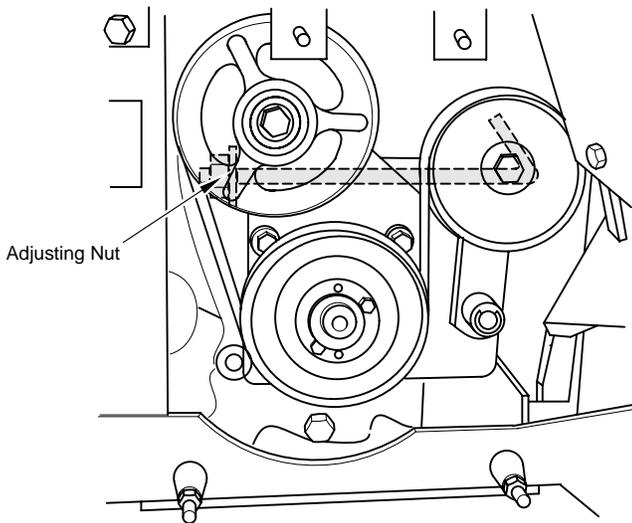

Figure 6-9 Engine Belt Adjustment
2. Adjust belt tension by turning the adjusting nut (Figure 6-9) to obtain a 1/2 inch belt deflection with 10 pounds of pressure. See Drive Belts, section 7.8 for checking method.